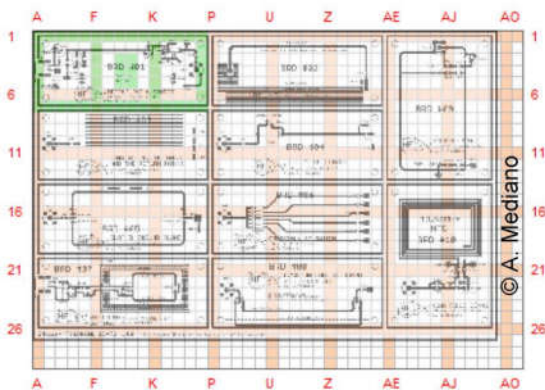

Figure 5 BRD#01 spatial probes
- Disable the decoupling network made of a ferrite and a capacitor (JP1.1=ON, JP1.2=OFF) and select the BIG LOOP for return current. This is the worst situation in terms of EMI. Run a spectral scan with the probes shown in Figure 5. How does the spectrum look like? Is it expected?